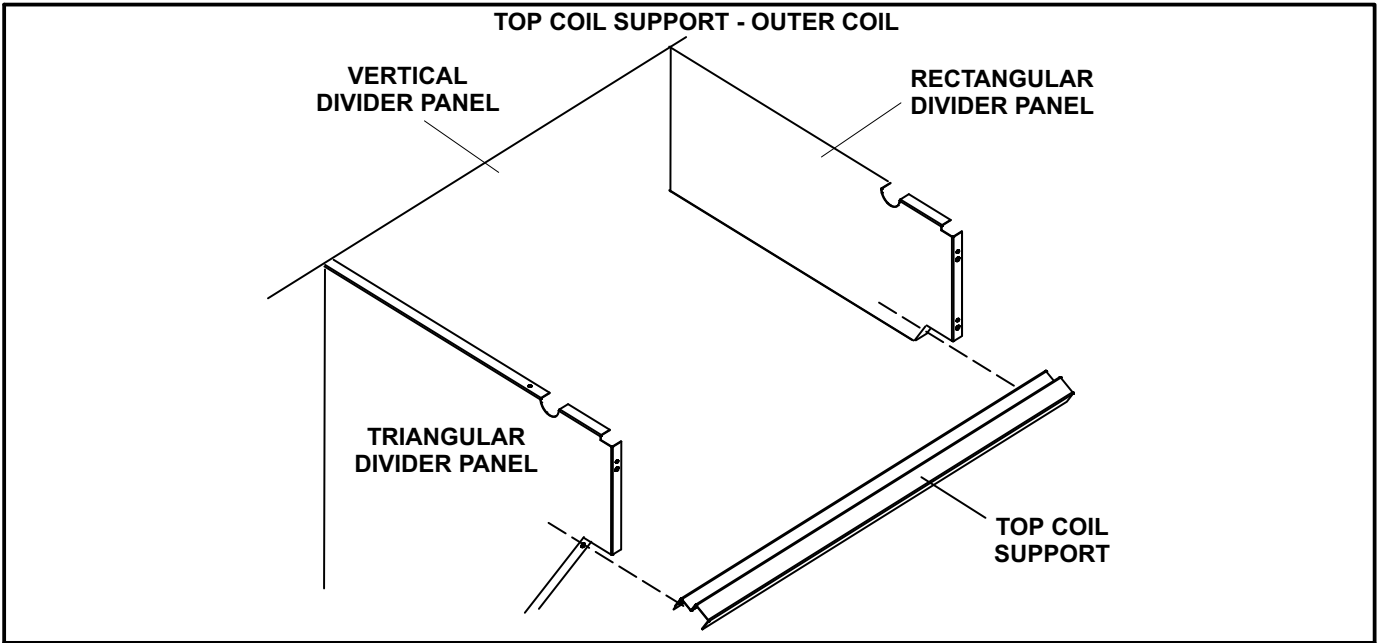

FIGURE 10
- 4- Install the top coil support, provided in kit, on to the outer triangular and rectangular panels. See figure 10.